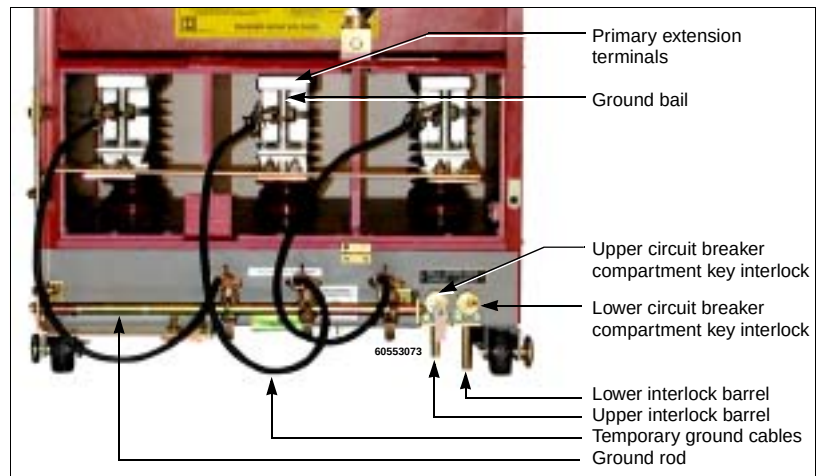

Figure 33: Temporary Ground Cables Installed
1. Check each ground bail (see Figure 33) with a properly rated voltage sensing device to ensure that power is **OFF**. If any voltage is detected **DO NOT** ground the circuit under any circumstance.
2. Using a hook stick, install the temporary ground cables. Connect the cable end to the ground rod and then connect the other end to the ground bail at the primary extension terminals (see Figure 33).